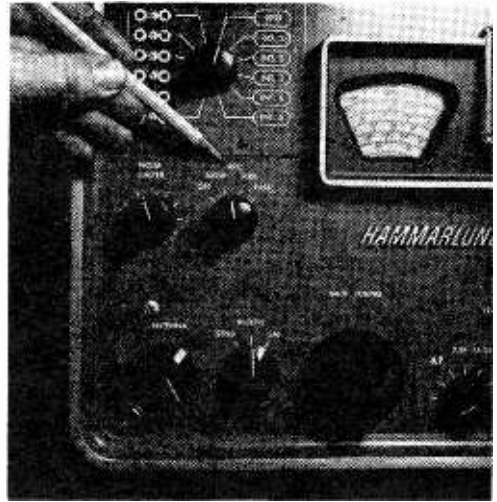

Fig. 2. Some receivers—this Hammarlund, for one—permit operator to control AVC rate.
The 0.1-second filter, therefore, is designed as a compromise which attempts to fit AVC response between the two extremes. In some advanced receivers, an AVC selector switch (Fig. 2) enables the operator to choose his rate to improve the receiver's performance on certain specialized signals such as code (CW), single sideband, or other non-standard carriers.
Bottled squelch. A tube variety is shown in Fig. 2 and its operation boils down to this: AVC voltage is greatly boosted by an amplifier, then the magnified voltage controls the grid bias of a regular audio stage. Since AVC amplified voltage now swings over a much larger range, the audio tube switches briskly on and off. Let's trace it in some de-
Fig. 2—In tube type CB rig change in AVC voltage (when carrier is received) lowers voltage drop across squelch control thus opening audio clamped by higher voltage.
tail in Fig. 2. First, there's the conventional audio amplifier shown connected to the detector. Since all audio signals must pass through it, the amplifier *handily* serves as a controlled stage. The other stage (near the bottom of the diagram) is the squelch control, nothing more than a *DC amplifier*. Note that the tube grid of the squelch control is operated by AVC voltage—and that the *plate* of this stage also connects upward to the grid of the audio amplifier.
For the system to operate properly, you must set a squelch with care. The usual problem results when the knob is set too high and weaker stations cannot activate the squelch. As you can see in Fig. 2, a high setting could place the audio grid too far into the negative region and prevent the receiver from unsquelching except for strong signals. The technique for adjusting a squelch is to wait until no signal is being received, then rotate the knob until the background noise *just* disappears.
Fig. 2. When analyzed, the AM signal is found to be a combination of an unmodulated carrier plus sidebands. The sideband frequencies are equal to the carrier frequency plus and minus the audio frequency.
27-MHz CB radio carrier. As shown in Fig. 2, audio and radio mix in the final amplifier and three distinct signals go to the crystal that produced it. And once it leaves the final stage it serves no further purpose. It has already done its job in the RF amplifier—mixing with audio to create sidebands, which actually bear the modulation. Another surprise is that one sideband is also useless. Since uppers and lowers are mirror images of each other—and carry identical audio—one can be cast aside without losing a syllable. (That's why conventional AM, the sideband supporters say, transmits a lot of air pollution.)